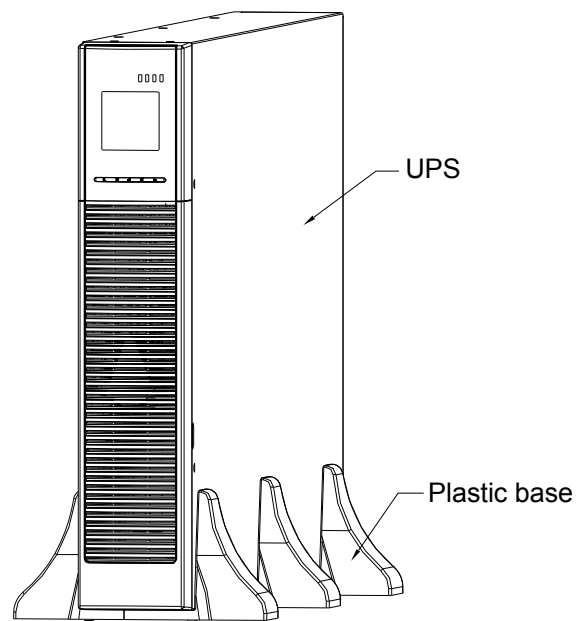

FIG. 11 The installation for UPS and battery box
- ① Two plastic base brackets
- ② Flatten it after intercrossing intercross as following FIG.
2. Install the base, then place the On-Line UPS on the base one by one as Fig.11 shows.